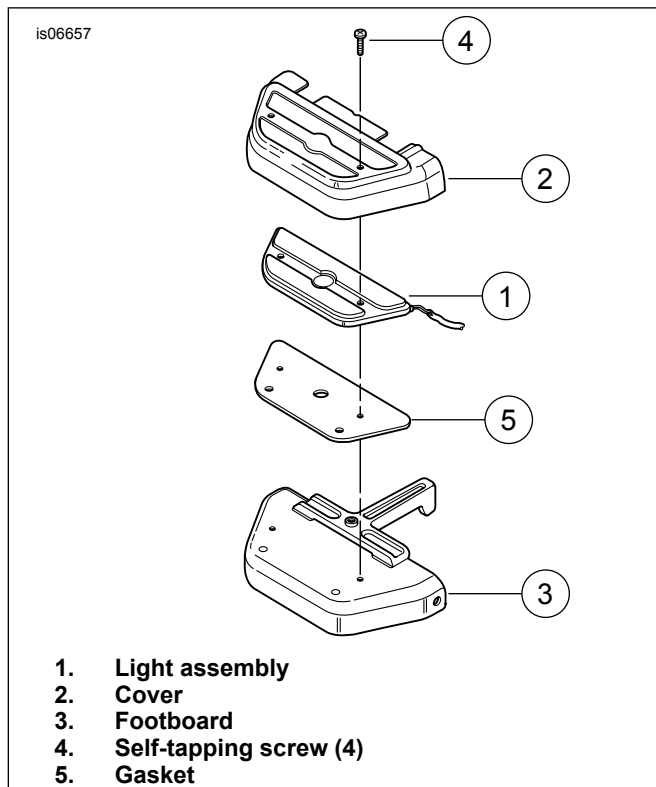

Figure 3. Install Footboard Cover
1. See Figure 3. Assemble the light assembly (1) into each cover (2), and place the light and cover assembly over the bottom of each footboard (3). Mark the location of the mounting holes.
5. See Figure 3. Apply lightweight oil to the threads of the four self-tapping screws (4) provided in the kit. Install the screws part way into the two drilled holes in each footboard (3); this will start to form threads in the footboard. Remove the screws, cleaning out any loose material from the holes, and clean any oil remaining on the footboards.
6. See Figure 3. Place the gasket (5) on each footboard, but do not remove the backing until alignment is verified. Place the light assembly (1) on each footboard (3), and check the alignment of the gasket and light assembly. The gasket should be flush with the light assembly all the way around the light. If needed, mark the correct position of the gasket.
7. Remove the backing from the gasket (5) and apply to each footboard (3).
8. Install the light assembly (1) and cover (2) on each footboard using two self-tapping screws (4) provided in the kit, fully seating each screw.